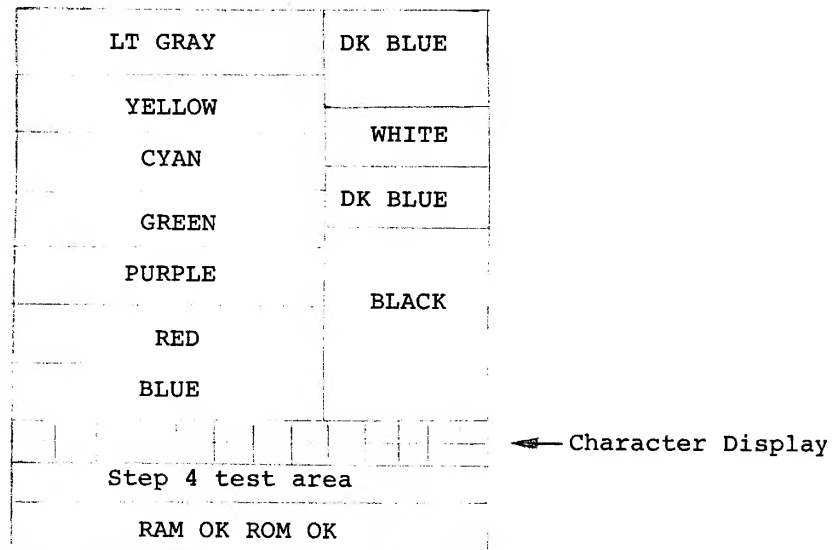

FIG. 1
2. The Pots on the joystick may now be checked by moving the control and observing the screen. Two pairs of numbers appear just right of center in the band marked Step 4 Test area in Fig. 1. The pair to the left should change when the control is moved left/right. The other should change when the control is moved up/down.